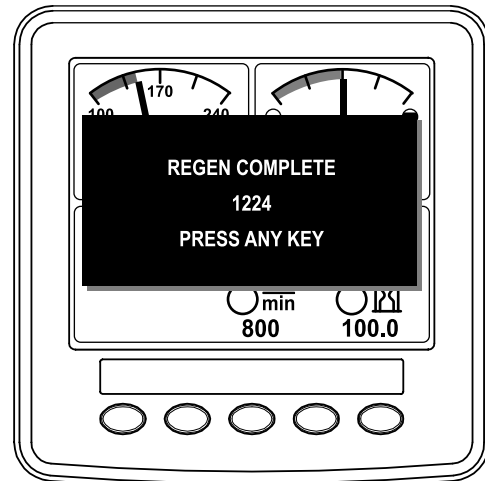

Figure 60
11. When the engine computer completes a parked or recovery regeneration, the InfoCenter displays ADVISORY #1224 (Figure 60). Press any button to exit to the home screen.